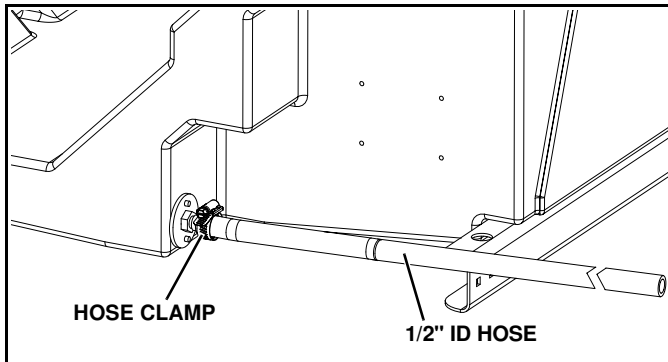

Figure 1-1
1. Locate the 1/2" ID Hose and a Hose Clamp. (See Figure 1-1)